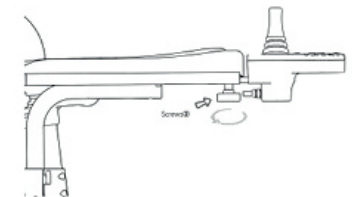

FIGURE 20
4. The joystick can be the telescopic length, adjust the appropriate length after. Tighten the screws ② to fix the length.(Figure 20)